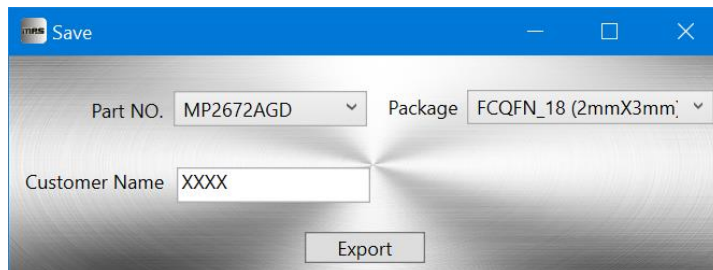

Figure 10: Exporting Configurations
6. Ensure that all the parameters are populated before clicking “Export” in the toolbar. The selected configurations will then be exported (see Figure 10).